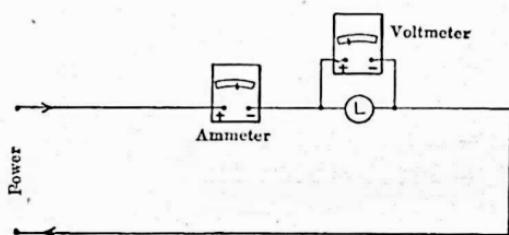

FIG. 13. "Ammeter and Voltmeter" method of measuring resistance of lamp.
Thus to find the resistance of the lamp (L), in Fig. 13, an ammeter is inserted in the circuit with it, and